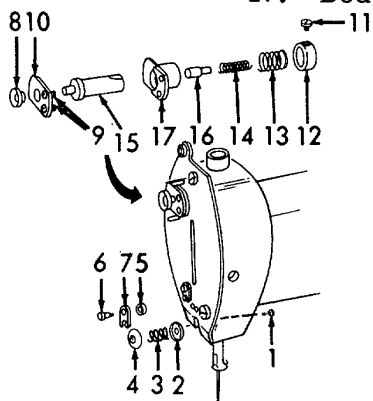

Figure 6-124. Face Plate, Disassembly.
b. Disassembly (Refer to Figure 6-124).